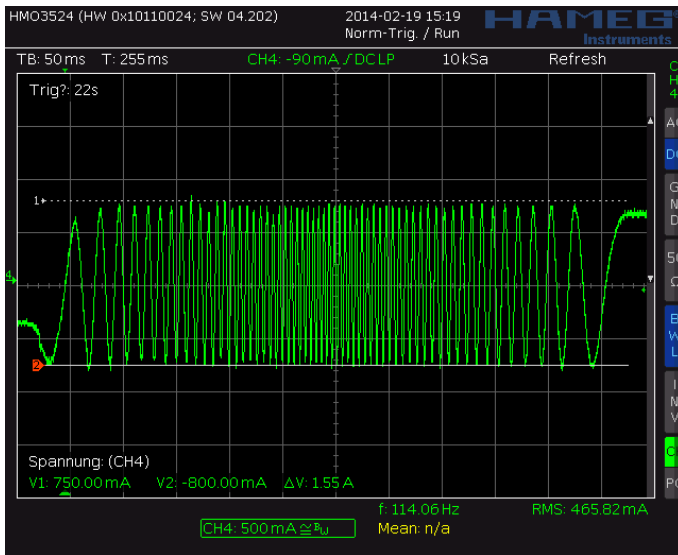
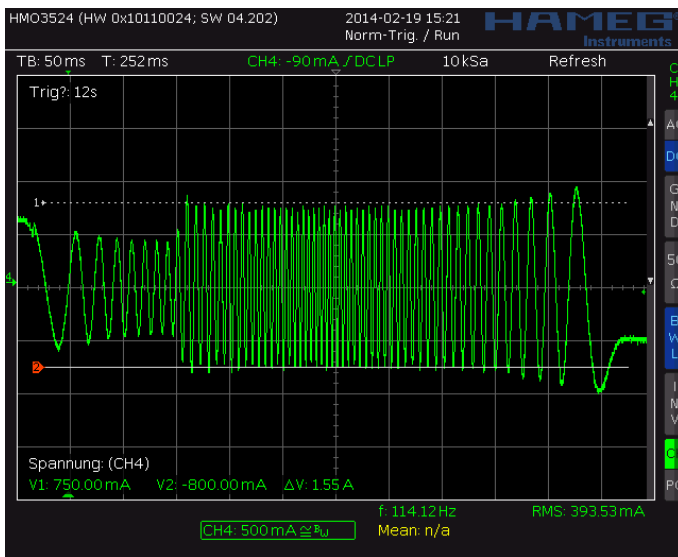
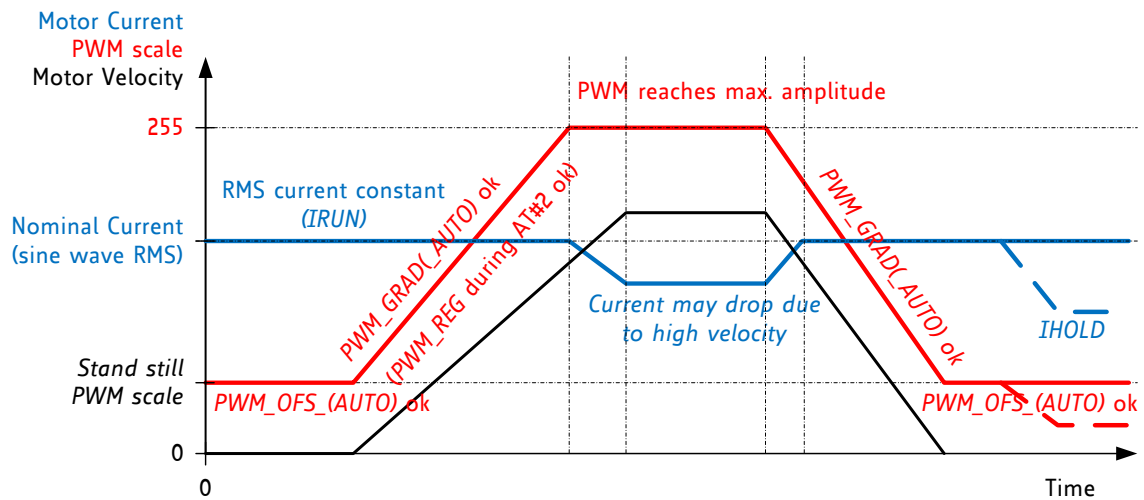

Figure 7.3 Scope shot: good setting for PWM_REG
Figure 7.4 Scope shot: too small setting for PWM_REG during AT#2
Figure 7.5 Successfully determined PWM_GRAD(AUTO) and PWM_OFs(AUTO)
In StealthChop voltage PWM mode, the autoscaling function ($pwm_autoscale = 1$, $pwm_auto_grad = 1$) regulates the motor current to the desired current setting. Automatic scaling is used as part of the automatic tuning process (AT), and for subsequent tracking of changes within the motor parameters. The driver measures the motor current during the chopper on time and uses a proportional regulator to regulate PWM_SCALE_AUTO in order match the motor current to the target current. PWM_REG is the proportionality coefficient for this regulator. Basically, the proportionality coefficient should be as small as possible in order to get a stable and soft regulation behavior, but it must be large enough to allow the driver to quickly react to changes caused by variation of the motor target current (e.g. change of VREF). During initial tuning step AT#2, PWM_REG also compensates for the change of motor velocity. Therefore, a high acceleration during AT#2 will require a higher setting of PWM_REG . With careful selection of homing velocity and acceleration, a minimum setting of the regulation gradient often is sufficient ($PWM_REG=1$). PWM_REG setting should be optimized for the fastest required acceleration and deceleration ramp (compare Figure 7.3 and Figure 7.4). The quality of the setting PWM_REG in phase AT#2 and the finished automatic tuning procedure (or non-automatic settings for PWM_OFS and PWM_GRAD) can be examined when monitoring motor current during an acceleration phase Figure 7.5.